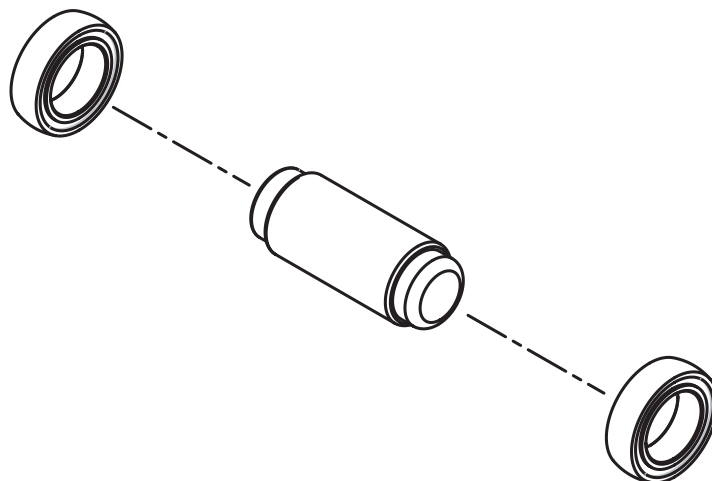

Figure 69. Inner electrode and alignment bushings
5. Remove the alignment bushings from the inner electrode. See Figure 69.
1. Reinstall the alignment bushings on the inner electrode, as Figure 69 on page 93 shows.